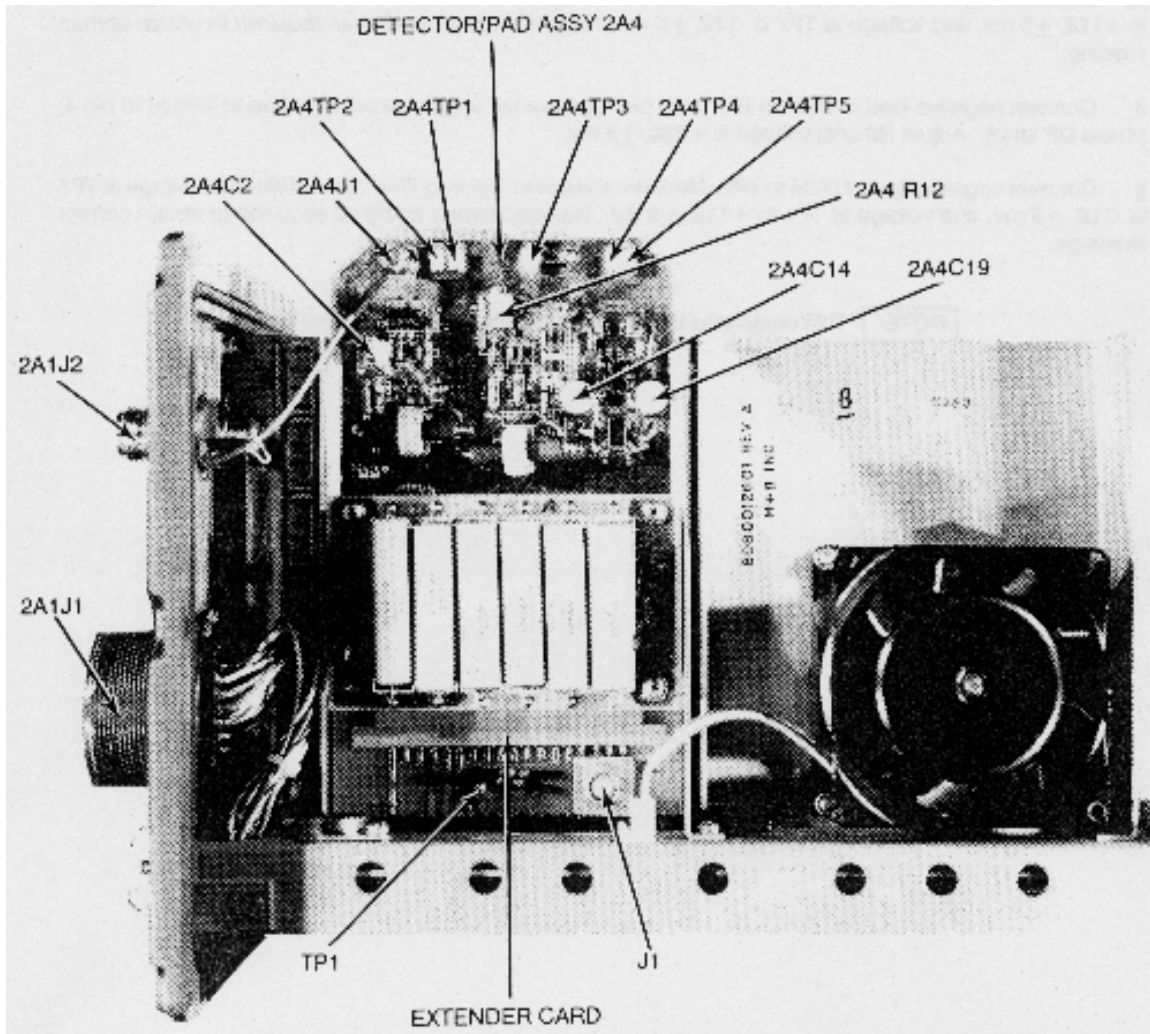
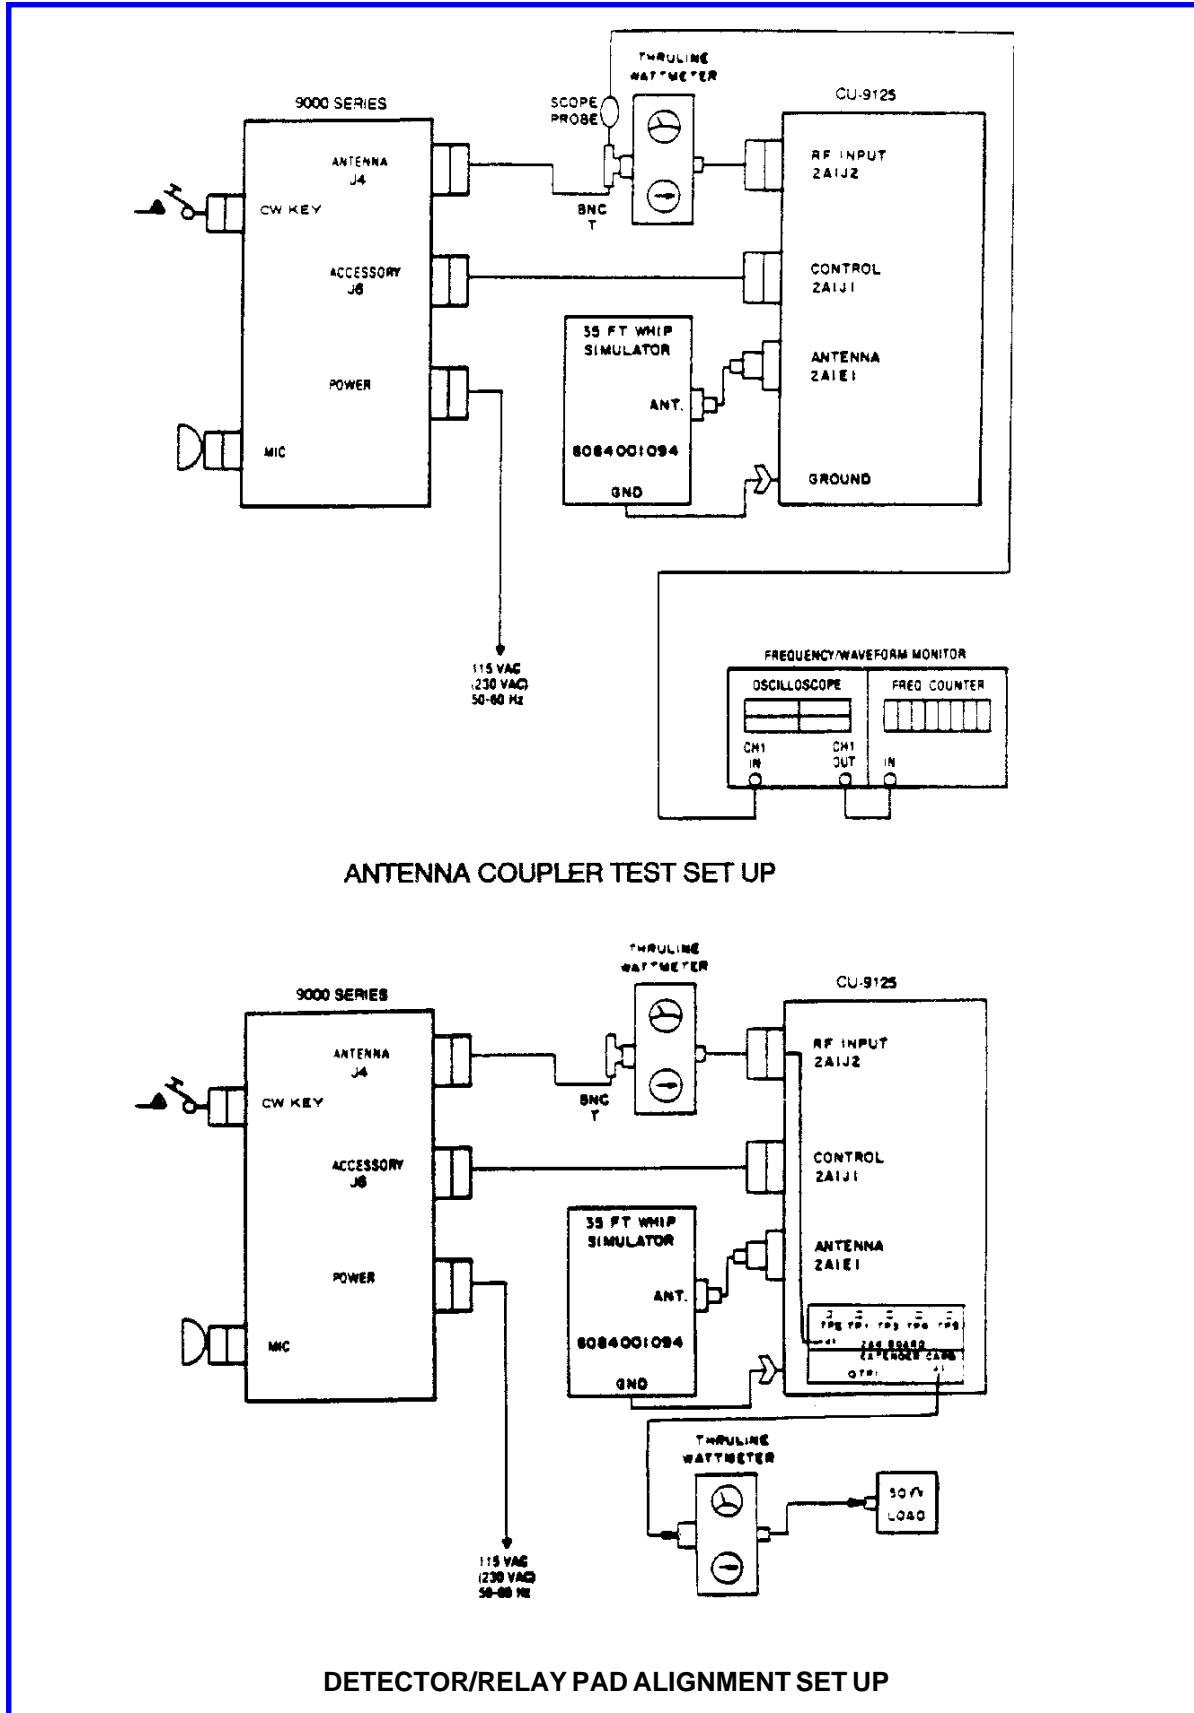

Figure 5.3 CU-9125 Detector/Pad (2A4) and Extender Card Test Points and Adjustment Locations.
Figure 5.4 Coupler Test.
Connect Transceiver/Exciter, Antenna Coupler, and Test Equipment as shown in Figure 5.4, Antenna Coupler Test Set Up.
Connect Transceiver/Exciter, Antenna Coupler and Test Equipment as shown in Figure 5.4 Detector/Relay Pad Alignment Set Up. Install Detector/Relay Pad Assembly (2A4) on card extender (Sunair P/N 8085165091). (See Figure 5.3).
NOTE: All measurements and adjustments are accomplished on the 2A4 board. See Figure 5.3 for Test Point and Adjustment Locations.
- a) Test equipment: Frequency/waveform monitor, Figure 5.4 and a Digital Voltmeter (DVM).